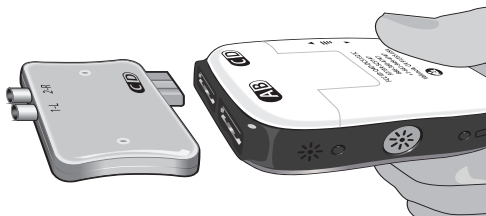

Figure 8: Connection of the ETS Adapter to the External Trial Stimulator 2
3. Plug the ETS Adapter into the External Trial Stimulator 2 socket labeled “CD” (Figure 8).